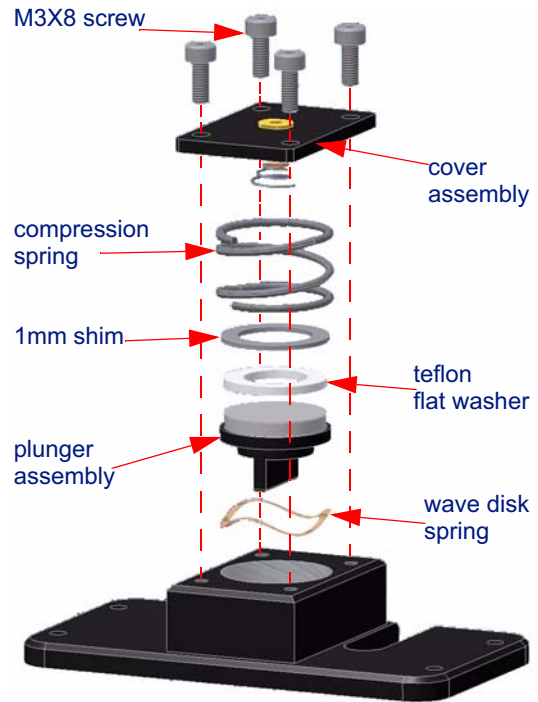

Figure 5-11: COMET Sonicator Assembly
8. Remove the old plunger assembly and replace with sonicator plunger assembly WTC #110025, reinstalling the stack as shown in Figure 5-11.